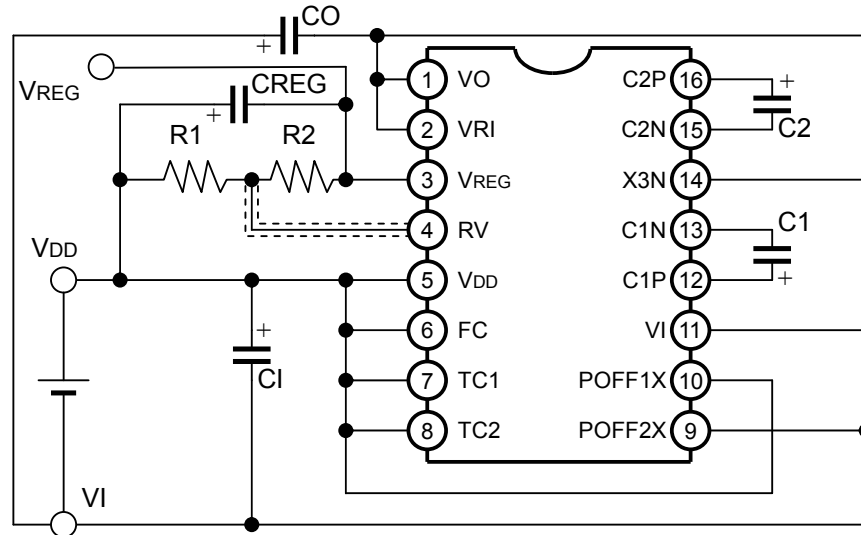

Fig.9.2 3rd boosting + regulator connection example
Fig.9.2 shows a connection example.
- ◇ Fig.9.2 Setting conditions
- Set the POFF1X pin to level LOW (VI); all circuits will be turned off.
- ① When using the high output mode